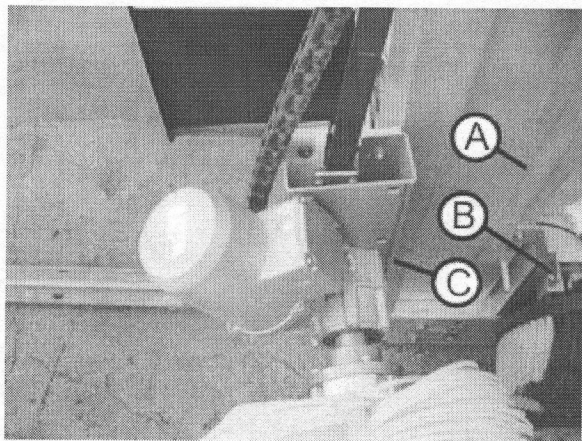

Fig. 049
1. Unscrew the lower guide rail (A) of the roof brush on the relevant side (Fig. 049).
2. When changing the sliding stones on the side of the rotation motor, unscrew the limit switch roof brush below (B) and light barrier (C) (Fig. 049)
10. Mount limit switch roof brush below (B) and set to 5 mm distance (Fig. 049).
11. Install light barrier (C) (Fig. 049).